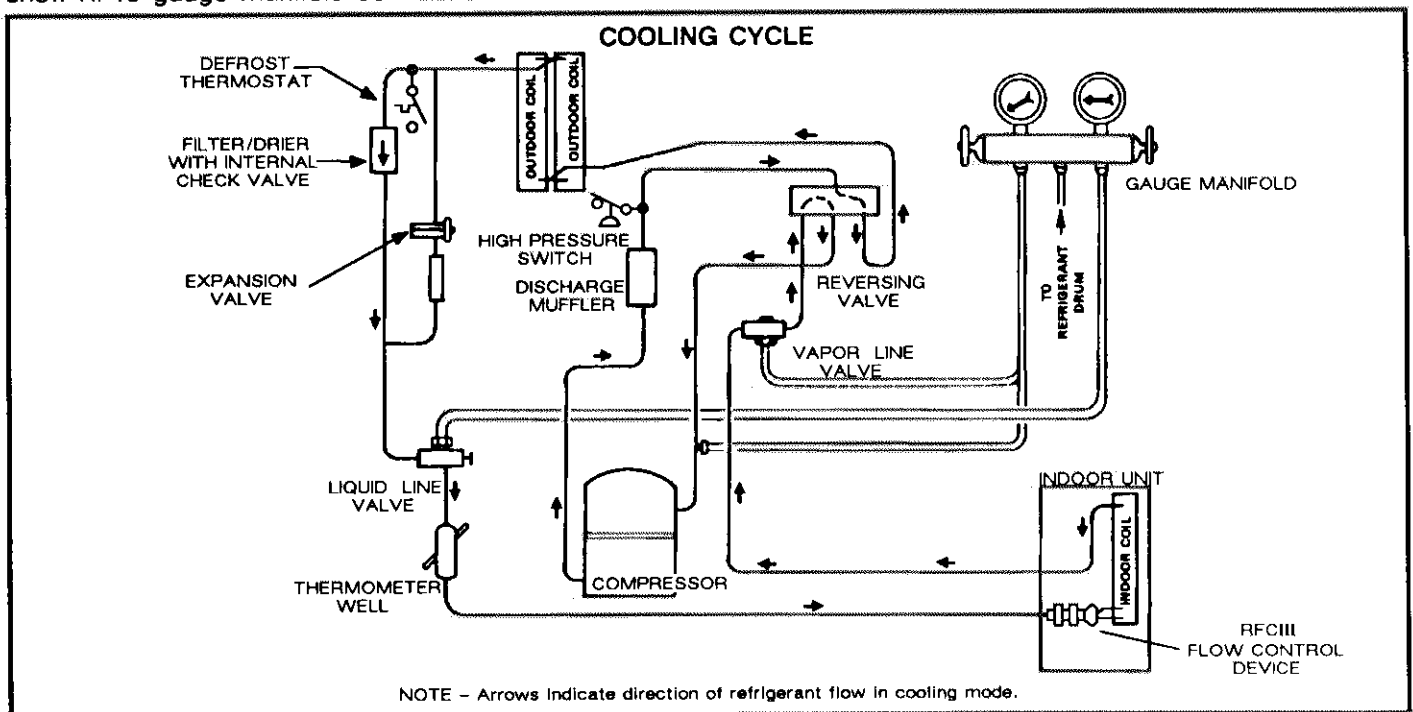

FIGURE 7
A refrigerant reversing valve with electromechanical solenoid is used to reverse refrigerant flow during unit operation. The reversing valve is energized during cooling demand and during defrost. Refer to figures 7 and 8 for more information.
Separate discharge and suction service ports are provided at the compressor for connection of gauge manifold during charging procedure. Figures 7 and 8 show HP19 gauge manifold connections.
- 1- Attach gauge manifold as shown in figure 7. Connect vacuum pump (with vacuum gauge) to center port of gauge manifold. With both manifold service valves open, start pump and evacuate indoor coil and refrigerant lines.
- 1— Connect gauge manifold as shown in figure 7. Connect an upright R-22 drum to center port of gauge manifold.